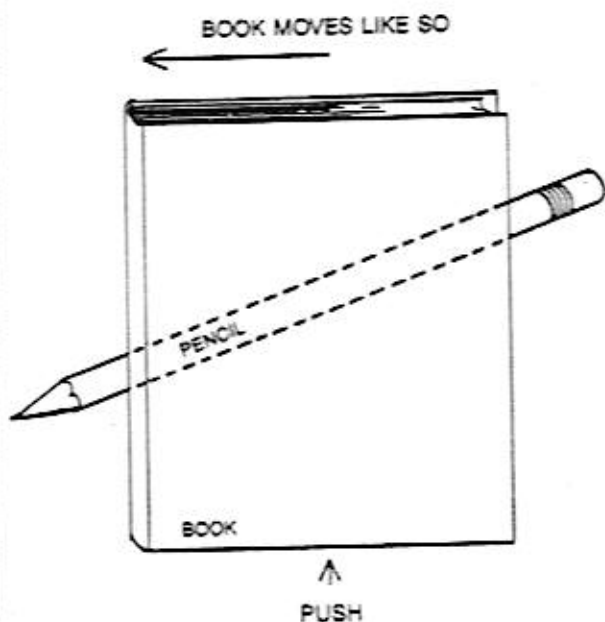

Figure 14-4. Basic Principle and Rule of Belt Tracking
6. The belt moves toward that end of the roller/idler that it contacts first. Refer to Figure 14-4.